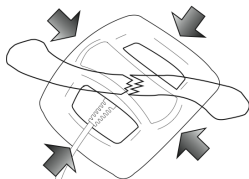

Figure 3
6. Center treatment coil over fracture site as prescribed by your physician. (Figure 3)